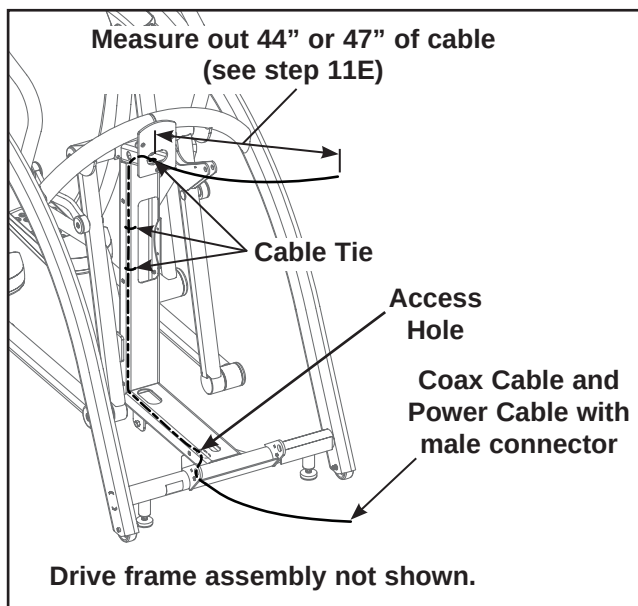
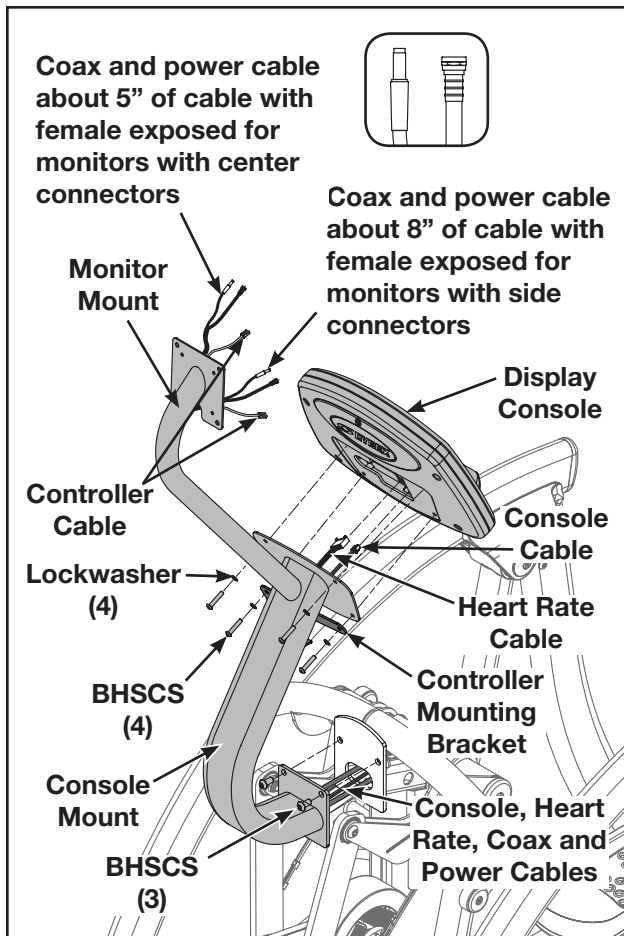

Figure 9
Figure 11
- A. Using a side cutter, cut the three cable ties. See Figure 9.
- B. Locate the coax and power cable (B).
- D. Route the cable inside top of frame as shown in Figure 9.
- F. Pull the extra coax and power cables out of the bottom of the main frame. See Figure 9.
- G. Attach three cable ties (F) replacing the ones removed in step 11A. See Figure 9.
- A. Locate the console mount (A).
- C. Insert the cables into the bottom of the console mount (A) until the cables exit the top of the console mount opening. See Figure 11.
- A. Position the console mount (A) on the main frame assembly and hand thread each of the three BHSCS. See Figure 11.
- A. Route the coax and power cable up through the monitor mount until cable exits the top. See Figure 11.
- B. With 5" or 8" of coax and power cables exiting the top of the monitor mount, pull the extra coax and power cables out of the bottom of the main frame. See Figure 11.
- A. Connect the console and heart rate cables (exiting the top of the console mount) to the display console. See Figure 11.
- B. Using two screws and lock washers, secure the top of the display console to the console mount. See Figure 11.
- C. Attach the controller mounting bracket to the bottom of the console mount using the remaining two screws and lock washers. See Figure 11.
- A. Pull the loose coax and power cables through the access hole. See Figure 9.
- B. Tighten the three cable ties securely. See Figure 9.